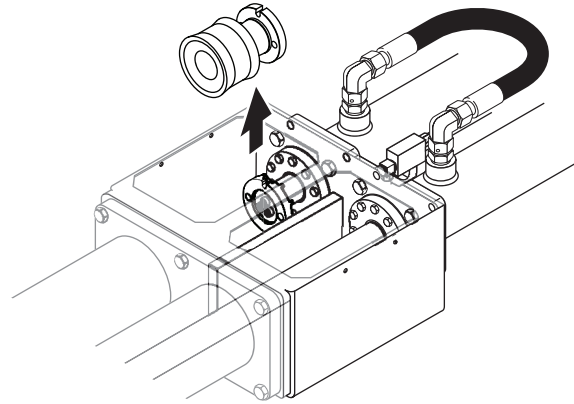

Figure 26
11. Remove the nut and bolt, and the ram will be free to come out of the waterbox (Figure 26).